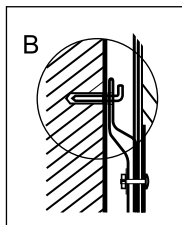

Fig. 7
2. After you chose the proper place to install the water heater, determine points for holes for expansion hook bolts (to be determined in accordance with the data sheet for the appliance you chose). Drill two holes of the corresponding depth in the wall using a drill, dimensionally fit for expansion bolts, enclosed with the water heater, insert bolts, turn the hook upwards, securely tighten nuts and then hang the electric water heater on these hooks (for RS1/RS2 series) (see Fig. 7).